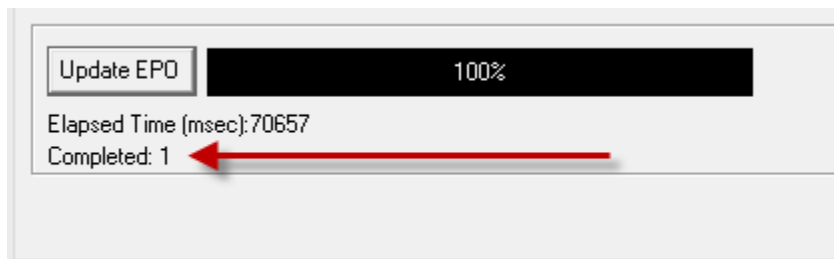

Figure 8 – EPO management tool – end of upload progress
- d. When the progress bar reaches successfully 100% - near the completed will appear a “1” digit” (see figure 8).